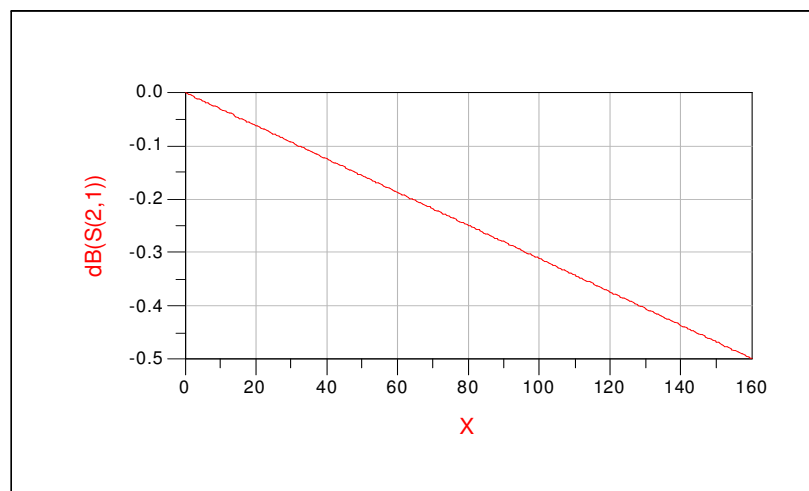

Figure 8 - Attenuation versus the length X.
2. Draw the following graphs :  $S_{21}(dB)$  (attenuation) versus the length X,  $Z_{in}$  (input impedance) versus the length X and  $S_{21}(phase)$  (phase response) versus the length X, as shown in Figures 8 and 9.